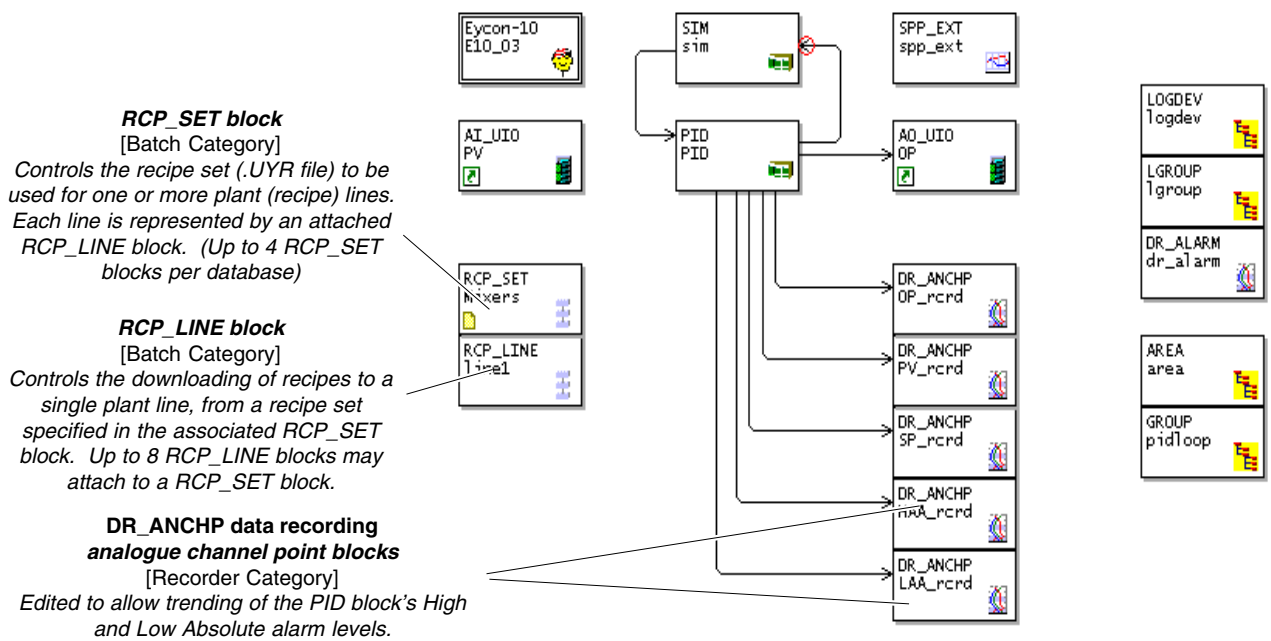

Figure 5-1 Data logging plus recipe strategy (simulated)
Figure 5-1 shows the (simulation) data logging strategy you created in the first part of Chapter 4, but with the setpoint program blocks deleted and some extra function blocks added to allow recipes to be used.
- 1 In the LINTools Engineering Studio, locate the required blocks as shown in Figure 5-1. The quickest way to do this is to open up the existing simulated data logging strategy as your starting-point, by double-clicking its icon in Explorer view.
- 2 In the existing strategy, delete the blocks associated with setpoint programming — which you won't be needing for this part of the tutorial. These are the five blocks named 'spp\_ctrl', 'spp\_ramp', 'spp\_dig', 'stirrer', and 'preplot'. Then add a RCP\_SET and a RCP\_LINE block (from the Batch category) as shown in Figure 5-1.
Table 5-2 lists the fields that should, as a minimum, be edited from their default values. For completeness, all such fields are shown in the table, including those edited in the original data logging strategy. Note that you must also edit the **Name** fields in all blocks, according to Figure 5-1 if you wish.